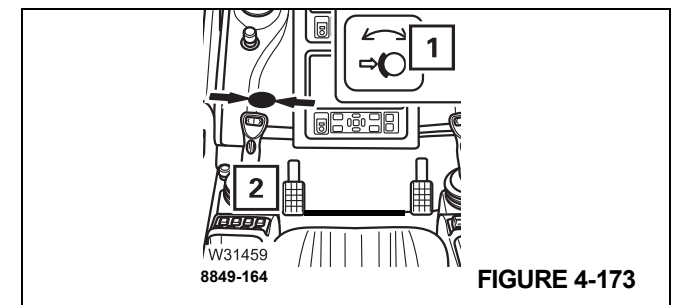

FIGURE 4-173
The lamp (1), (Figure 4-173) will light up if the swing brake has been applied.